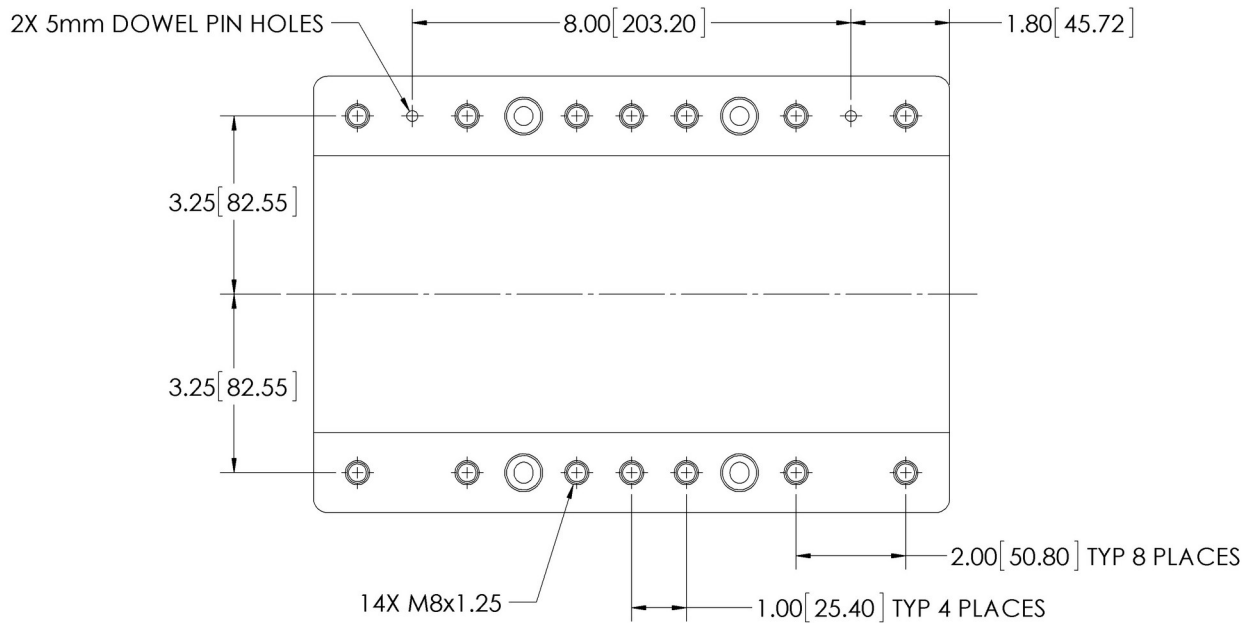

Figure 1: Carriage bolt hole pattern
The bolt pattern on the Carriage has been designed to facilitate process equipment installation. The Carriage has (14) fourteen M8x1.25 mounting holes with a depth of 0.52 inch (13 mm) to provide secure attachment points. The mounting holes are spaced as shown in Figure 1. The Carriage also has (2) two 5mm dowel pin holes to facilitate alignment. (See Figure 1 for location) These dowel pin holes are oversized to allow the pins to be glued into place using Loctite 609, or equivalent. **Only utilize 4 of the M6x1 mounting holes; using more than 4 may cause warping of the carriage.**